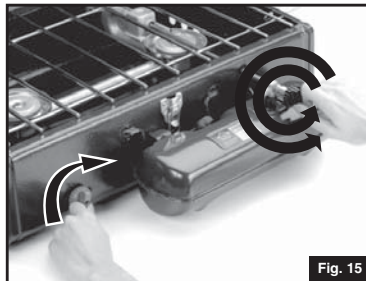

Fig. 15
- Quickly open FUEL VALVE two full turns while rotating IGNITOR KNOB clockwise until stove lights. (Fig. 15)